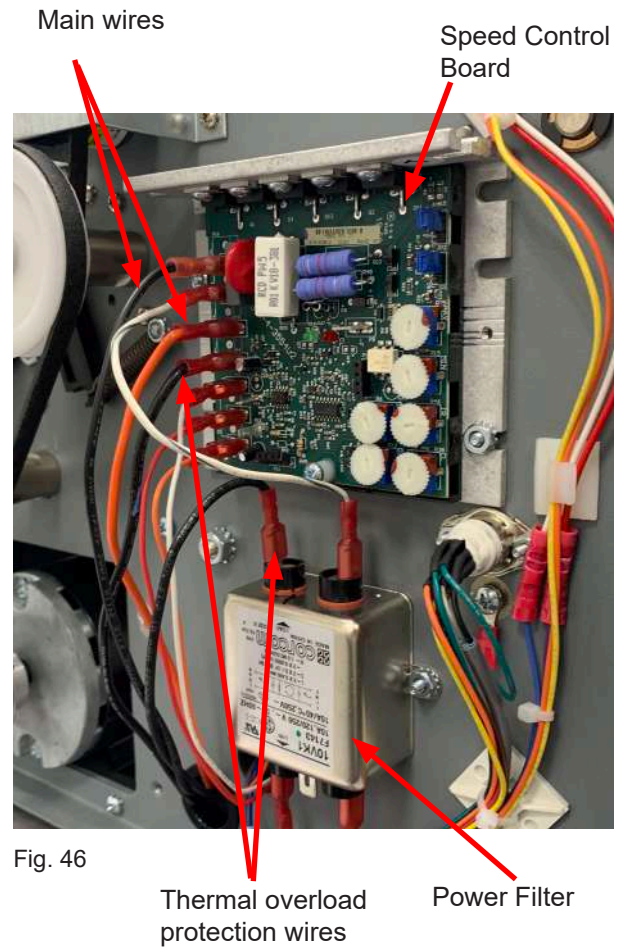

Fig. 46
3. Disconnect the black and orange main wires from the speed control board. The black wire is in position one and the orange wire is in position three from the top of the board (Fig. 46)
4. Disconnect the black thermale overload protection wires. Disconnect one from the speed control board, position four and the second from the power filter top left position. (Fig. 46)